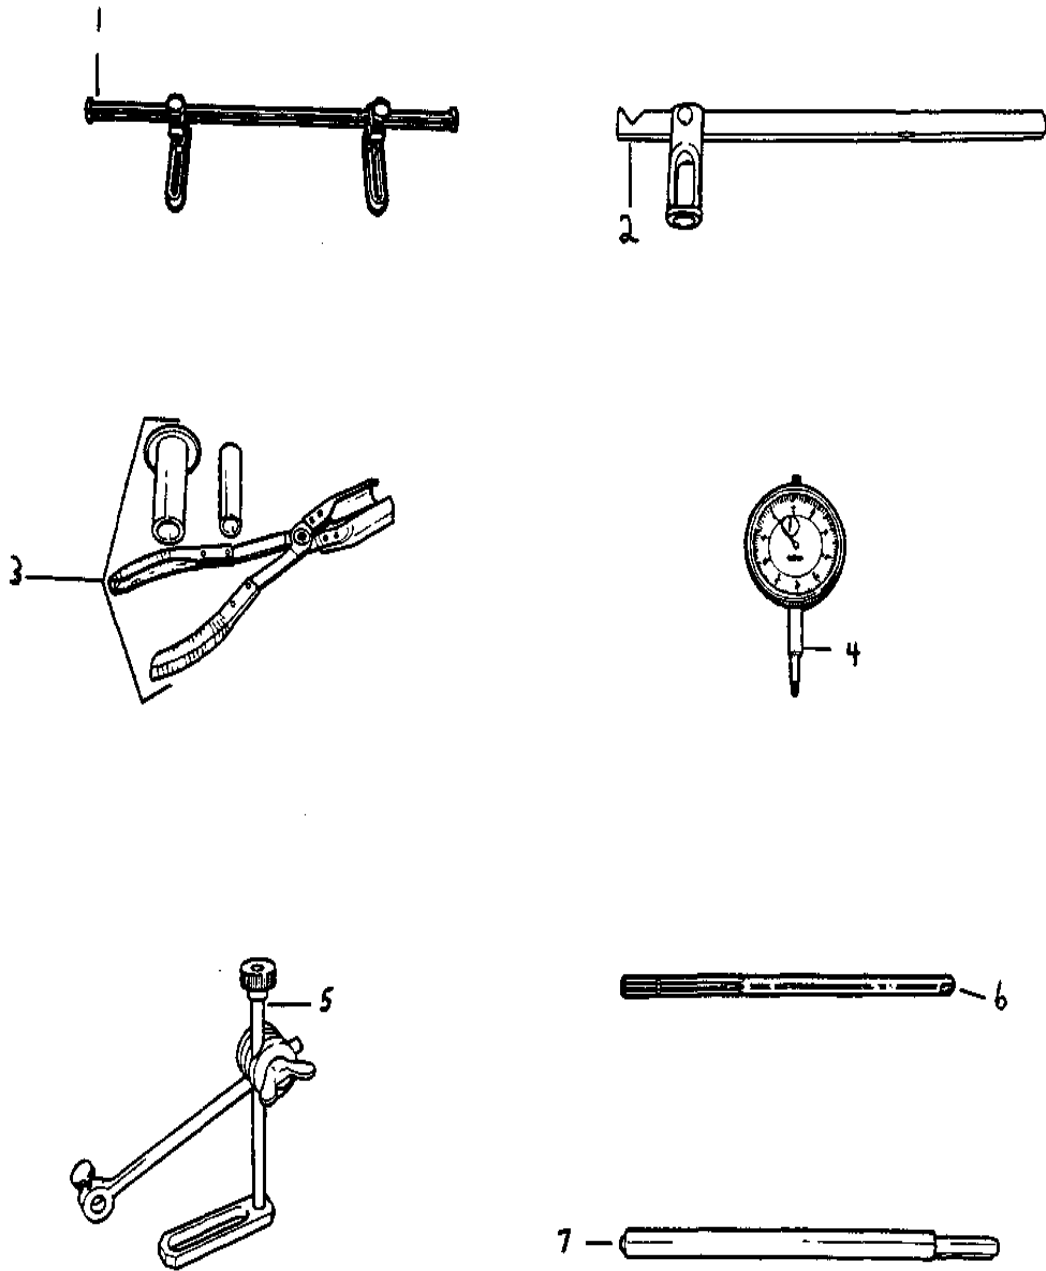

Figure 18 Special tools
3.8 Special Tools.- The following Table lists special tools that shall be used during the rebuild of the VW 1.7 litre engine cylinder head. Tools other than listed shall be approved by QA, see Figure 18 for tool identification.